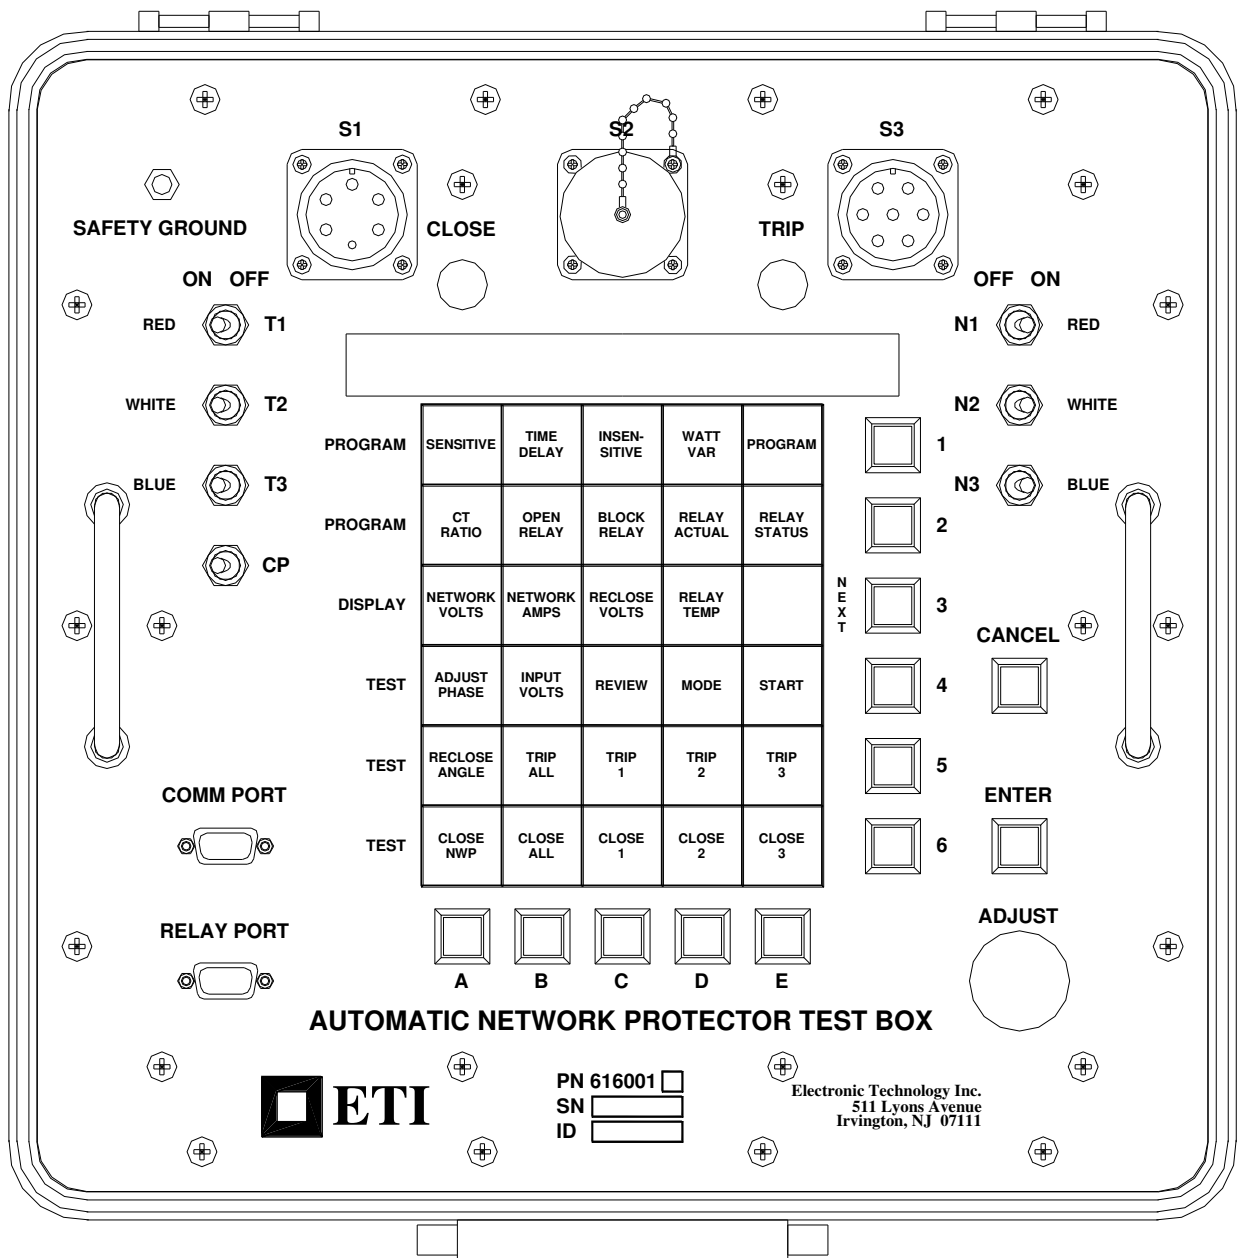

Figure 1: ETI Automatic Protector Test Box Faceplate
- A. The Test Box is a portable unit provided with a removable cover in which associated cables are stored. Figure 1 shows the main panel and the location of the various controls and operating parts.